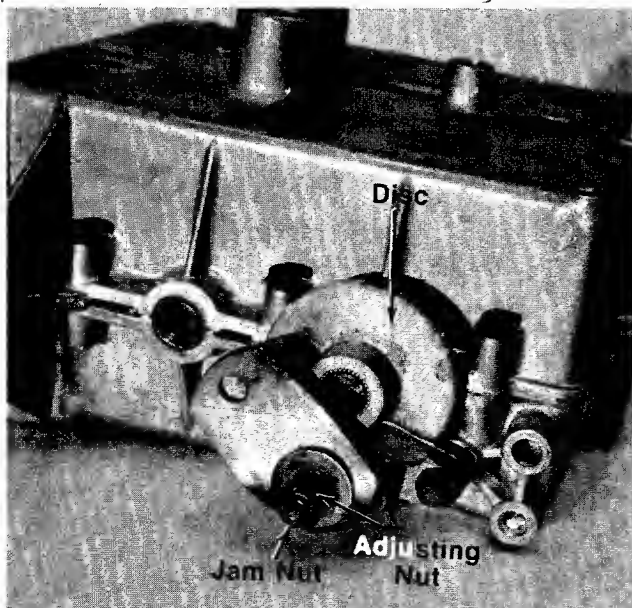

FIGURE 10.
1. Loosen the jam nut. See figure 10.
After the first two hours of operating a new engine, drain the oil (see figure 10) from the crankcase while engine is still hot and refill crankcase with new oil; thereafter change the oil after every 25 hours of operation. This procedure ensures minimum wear of engine parts. To change the oil, proceed as follows: